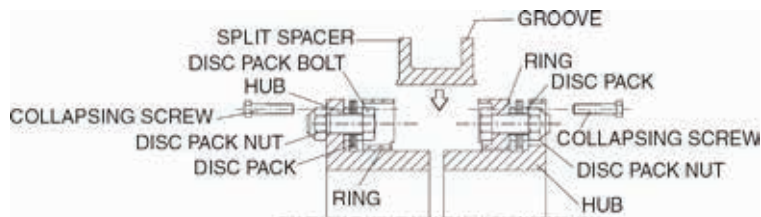

Figure 7. Hub separation.
5.1 Insert the collapsing bolts into the hub thru holes and thread into the ring. Draw the rings towards the hub flanges by tightening the collapsing bolts. Collapse ONLY ENOUGH to enable the split spacer to fit between the rings. See Figure 7.